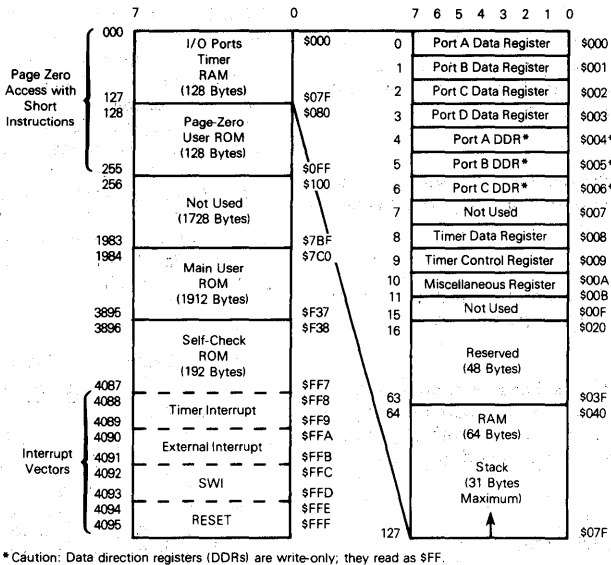

Figure 4. Memory Map
The MCU is capable of addressing 4096 bytes of memory and I/O registers. The memory map is shown in Figure 4. The locations consist of user ROM, self-check ROM, user RAM, a miscellaneous register (MR), timer registers, and I/O. The interrupt and reset vectors are located from \$FF8 to \$FFF.